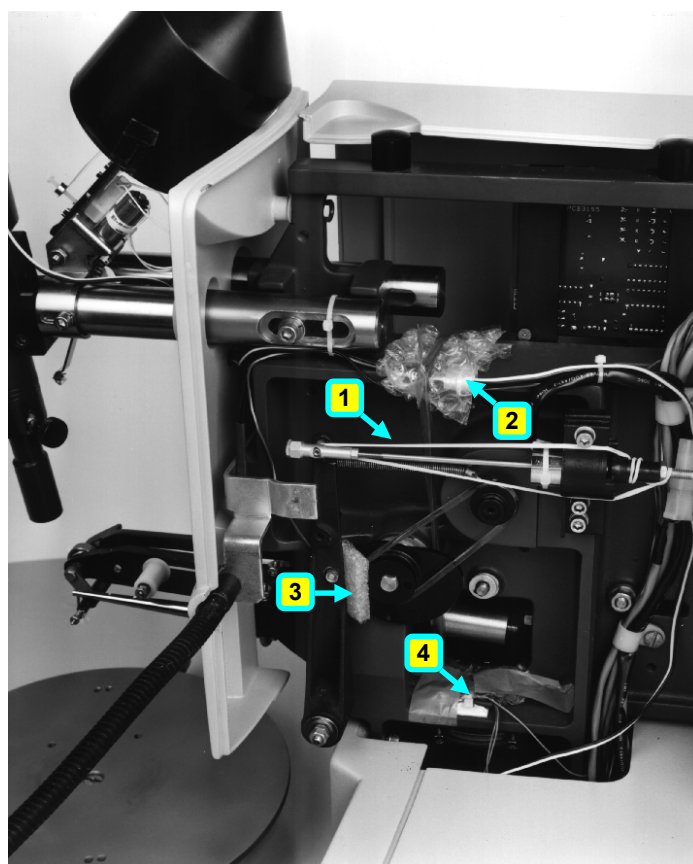

Figure 2-8: Main Head Packaging - Inner Right Side
- 15 From the interior right side of the main head, remove the rubber band holding the Height Control Link to the main LVDT holder (see Figure 2-8).
- 16 Remove the sponge packing located between the cam pulley and the height control link (see Figure 2-8).
- 17 Remove the protective packaging from the force coil top (see Figure 2-8).
- 20 Remove the bands holding the bonding head (see Figure 2-8 and Figure 2-9).